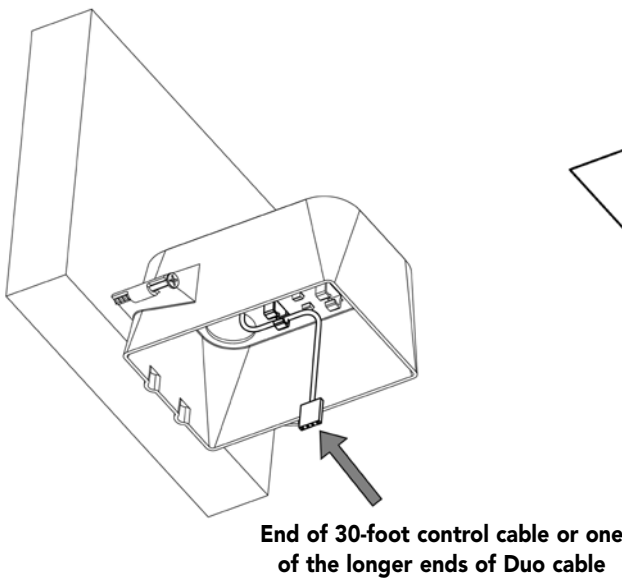

Figure 9
4. Route one end of the 30-foot control cable or one of the longer ends of the Duo cable (with a yellow flag stating "To Fixture") through the knockout into the junction box, and fasten it to one of the interior clips to hold it in place (**Figure 9**). Note that both longer ends of the 30-foot control cable are the same.